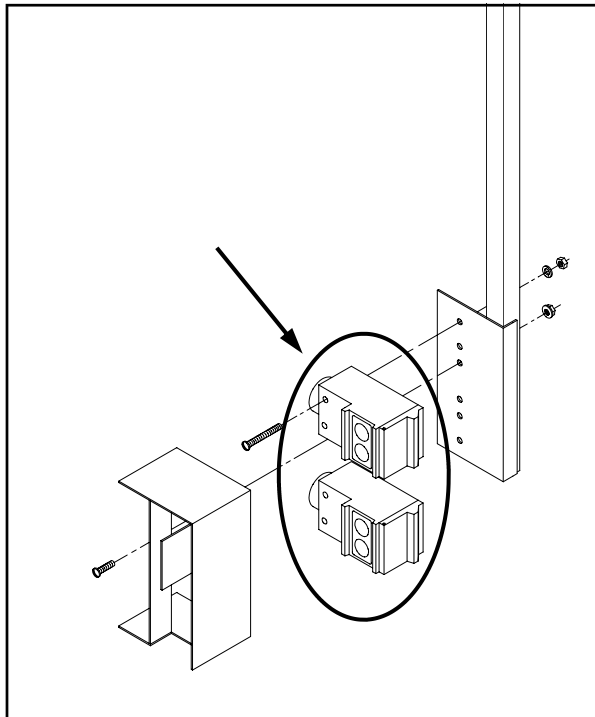
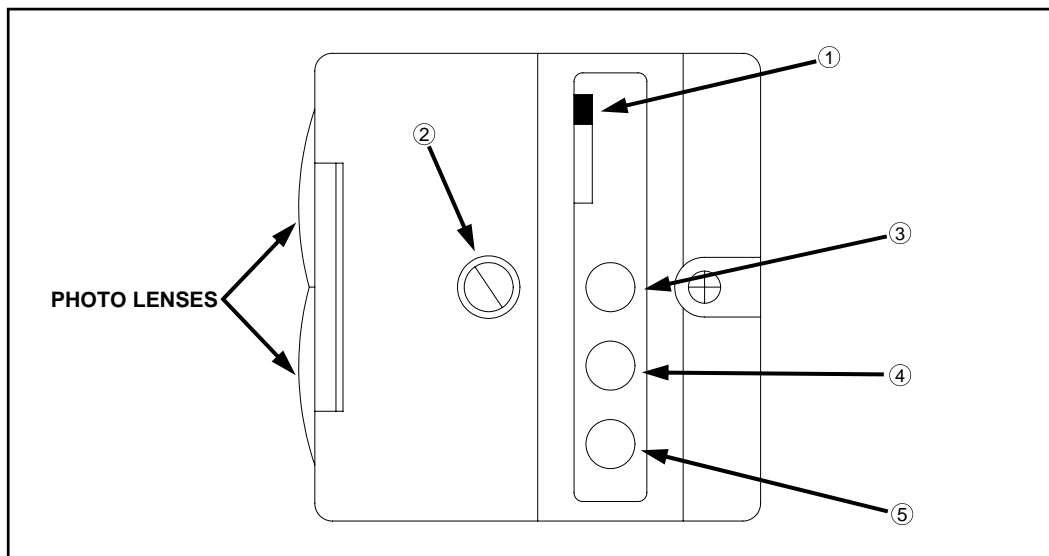

FIG 4.29
FIG 4.30
The upper and lower LS photolights (fig. 4.29) have L.E.D. lights (fig. 4.30) that indicate their operational status.
LT/DK SWITCH – Light/Dark switch on photolight (fig. 4.30, item 1) changes the activated condition of green L.E.D. (see below) from *ON* (“LT”) to *OFF* (“DK”). Switch does not affect the functional operation of the light, only how it is displayed. Switch should be set to “LT”.
SENSITIVITY ADJUSTMENT SCREW – Sensitivity adjustment screw (fig. 4.30, item 2) should always be set to maximum.
YELLOW L.E.D. – Yellow L.E.D. (fig. 4.30, item 3) indicates power on.
GREEN L.E.D. – Green L.E.D. (fig. 4.30, item 4) indicates output energized (sending a signal to Tassel-trol[®] box, opening the raise or lower stack valve).
RED L.E.D. – Red L.E.D. (fig. 4.30, item 5) indicates photolight is receiving reflected signal.